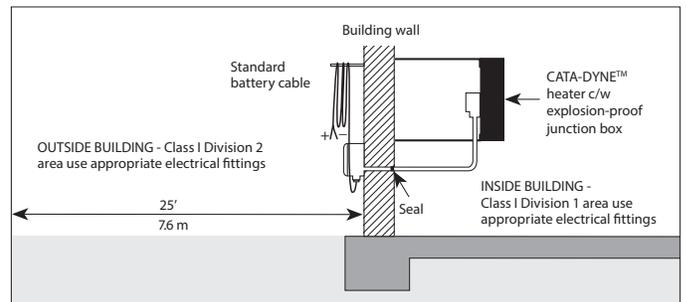

Figure 7 – Power supply connector (see Caution below).
1. Class I, Division 1 (Zone 1), within the building. Refer to Figures 7 and 8, page 6.
2. Class I, Division 2 (Zone 2), up to 10 ft (3 m) from the building in any direction. Refer to Figures 7 and 8, page 6.
3. Class I, Division 2 (Zone 2), between 10 ft (3 m) and 25 ft (7.6 m) from the building in all directions at an elevation of 18" (0.45 m) above the ground. Refer to Figures 7 and 8, page 6